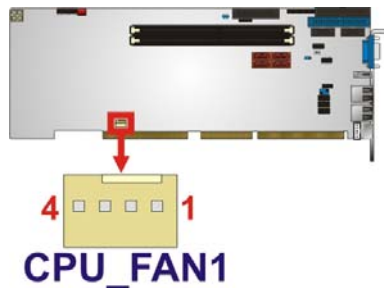

Figure 3-5: CPU Fan Connector Location
- CN Location:** See **Figure 3-5**